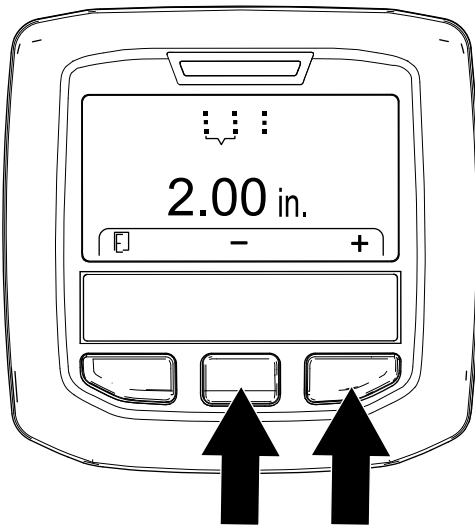

Figure 56
5. Adjust the hole spacing (Figure 56) as follows: